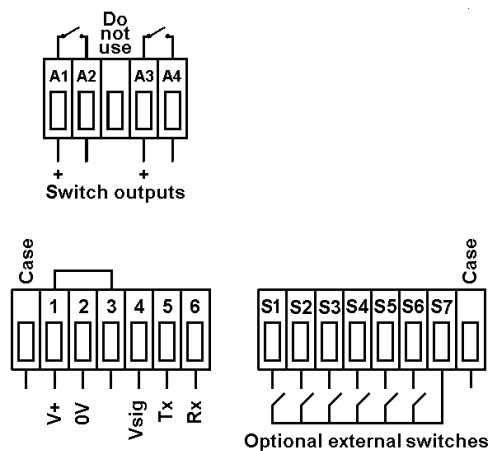

Fig 9 Installation and terminal connections
- Fix panel mounting clips to opposite sides of the instrument and tighten until the instrument is secure as shown in Fig 9. Four clips are required to achieve an IP66 seal between the instrument enclosure and the panel.
- Connect the panel wiring to the rear terminal block(s) as shown in Fig 9. To simplify installation, the terminals are removable so that panel wiring can be completed before the instrument is installed.